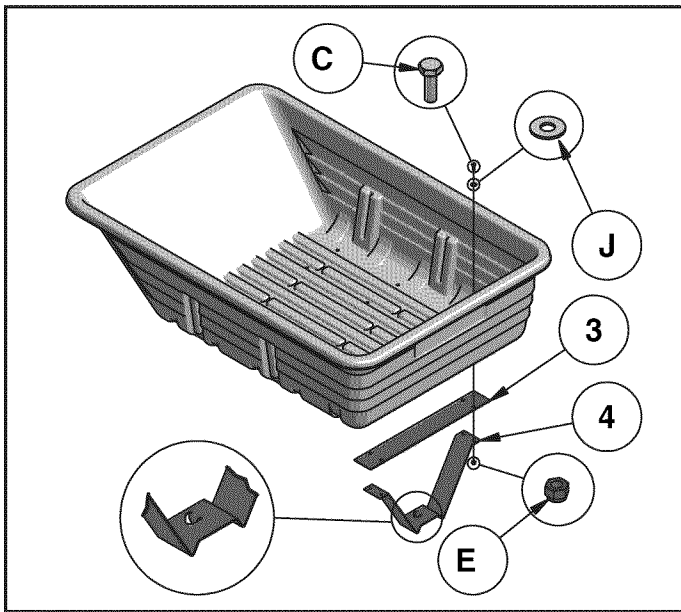

FIGURE 6
STEP 6: (SEE FIGURE 6)
- Assemble the latch stand plate (3) and the latch stand bracket (4) at the front of the tray using four hex bolts (C), washers (J) and hex nuts (E). The aligning tab on the bottom of the latch stand bracket must be towards the rear of the cart. **Tighten.**